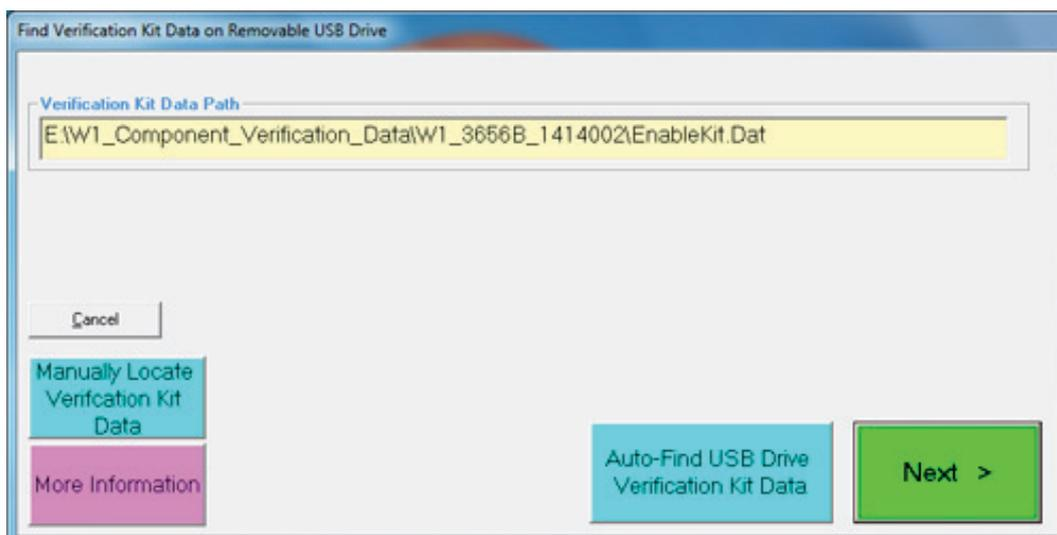

Figure 4-28. USB Drive Locator Dialog
- When the Auto Find Verification Kit Data dialog box first appears in Figure 4-28, the Verification Kit Data Path text field is blank. Click the Auto-Locate USB Drive Verification Kit Data on PC button. The application automatically locates the verification kit data on the USB drive and displays the path in the Verification Kit Data Path text field.